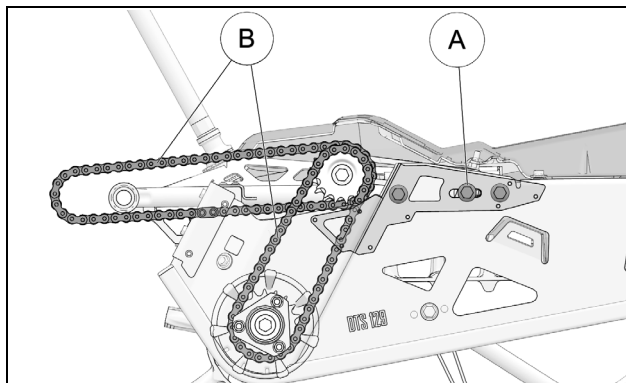

Figure 28
If a chain is adjusted to the highest setting (A) and the required amount of play (3-6 mm [1/8-1/4 in.]) cannot be obtained at mid point (B) between the sprockets, the chain should be replaced. See Figure 28.